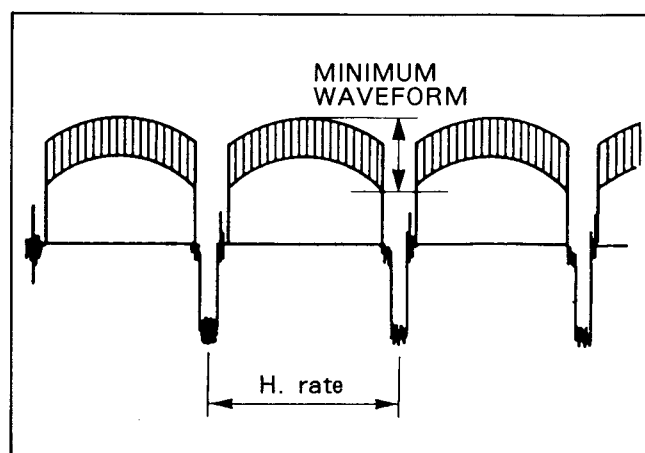

Fig. C32
- (1) Adjustment condition and procedure are same as using vectorscope.
- (2) Adjust VR523 and VR527 so that the waveform is minimized as shown in Fig. C32.